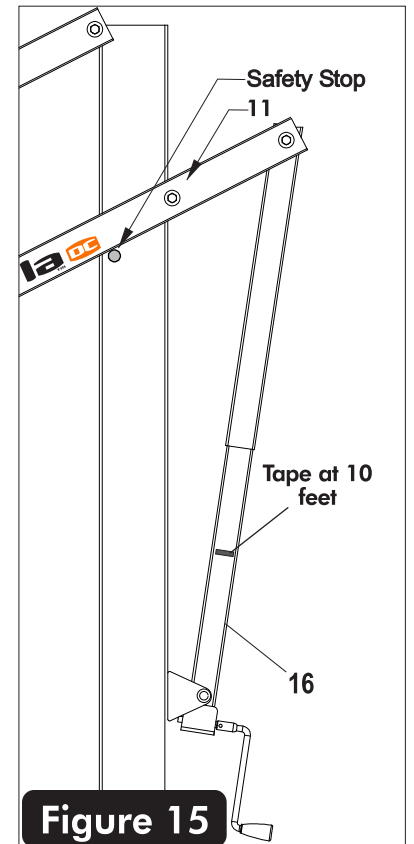

Figure 15
31. Lower backboard all the way down. Do not force actuator once backboard is in it's lowest position. See **Figure 15**.